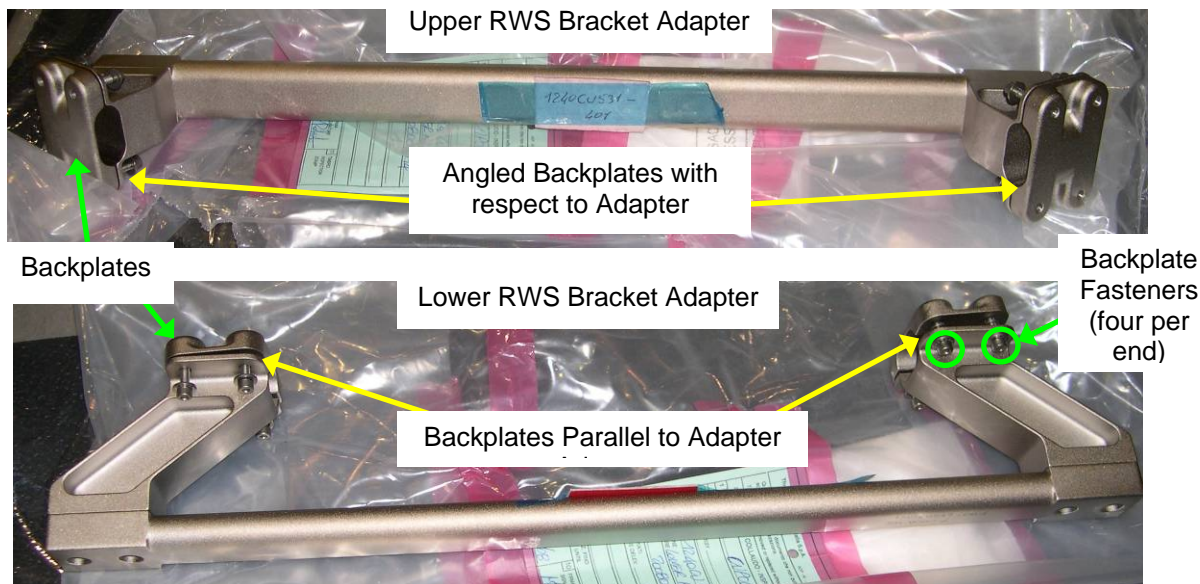

Figure 2.- RWS Bracket Adapters.
- 2.2 Label RWS Bracket Adapters (two) as “Upper RWS Bracket Adapter” and “Lower RWS Bracket Adapter” according to Figure 2 (Sharpie).
Refer to Figures 2 and 3.
- 2.8 Tighten, torque fasteners (eight per adapter) to 29 in-lbs (Ratchet, 1/4" Drive; 5/32" Hex Head; (10-50 in-lbs) Trq Wrench). Refer to Figure 2.
- 2.9 Position Lower RWS Bracket Adapter on lower Handrail. Align fasteners on RWS Bracket Adapters with receptacles on Backplates. Refer to Figures 2 and 3.
- 2.10 Tighten, torque fasteners (eight per adapter) to 29 in-lbs (Ratchet, 1/4" Drive; 5/32" Hex Head; (10-50 in-lbs) Trq Wrench). Refer to Figure 2.